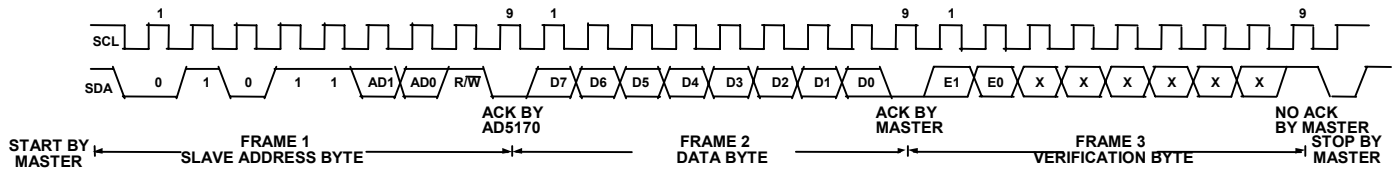

Figure 13 Reading Data from the RDAC Register
the acknowledgment of the slave address byte. Data is transmitted over the serial bus in sequences of nine clock pulses (a slight difference with the write mode, where there are eight data bits followed by an acknowledge bit). Similarly, the transitions on the SDA line must occur during the low period of SCL and remain stable during the high period of SCL (see Figure 13).
- After all data bits have been read or written, a STOP condition is established by the master. A STOP condition is defined as a low-to-high transition on the SDA line while SCL is high. In write mode, the master will pull the SDA line high during the tenth clock pulse to establish a STOP condition. In read mode, the master will issue a No Acknowledge for the ninth clock pulse (i.e., the SDA line remains high). The master will then bring the SDA line low before the tenth clock pulse which goes high to establish a STOP condition (see Figure 13).